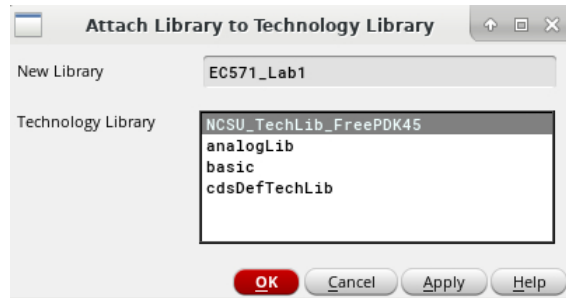

Figure 4: Technology file selection option for new library
2. In the “Attach Library to Technology Library” window, select “NCSU_techLib_FreePDK45” as your referring library and click “OK” (see Figure 4).